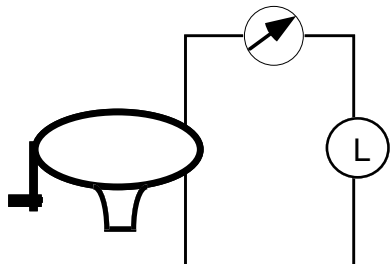

Figure 7.3a
Connect the terminals of a single Genecon to a long bulb in a socket, as shown in Figures 7.3a and 7.3b. Place a compass under one of the wires. **DO NOT BURN OUT THE BULB!**
3. Draw starbursts and arrowtails on Figures 7.3a and 7.3b to show what you observed. Color code the wires to show the pressures that make this happen.